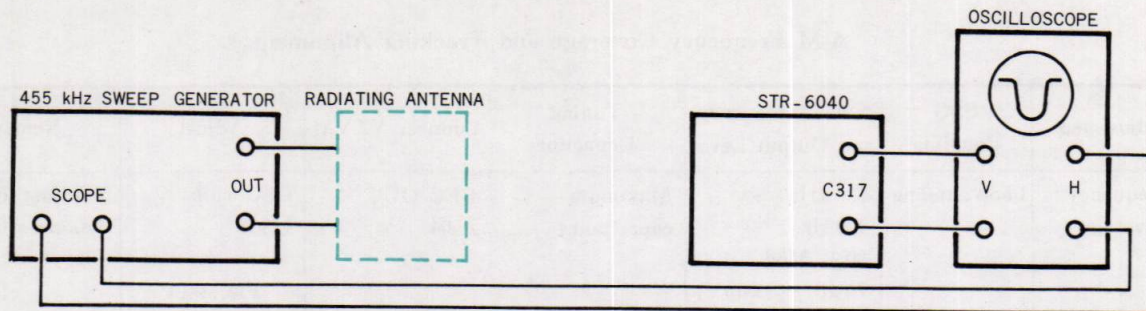

Fig. 3-11 A-m i-f alignment test set-up
1. With the equipment connected as shown in Fig. 3-11, set the sweep generator output as low as possible and adjust the scope controls to provide a visible indication.